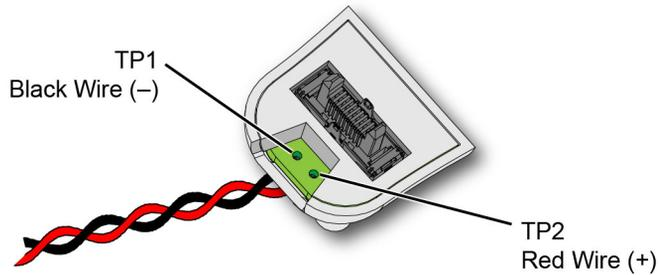

Figure 5 Lead Positions on PC Board
- 2 Flip the head as shown in Figure 5 and insert the leads up through the PC board’s solder holes **TP1** and **TP2**. Insert the **RED (+)** lead at TP2 and the **BLACK** lead at TP1. Solder the leads in place.